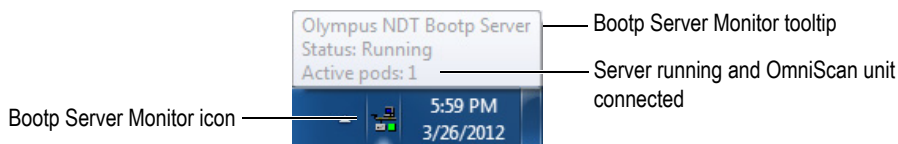

Figure 1-21 The Bootp Server icon when ready for operation
6. On the computer, bring the pointer over the Bootp Server Monitor icon () in the Navigation Area of the Windows taskbar. A tooltip appears (see Figure 1-21 on page 41).